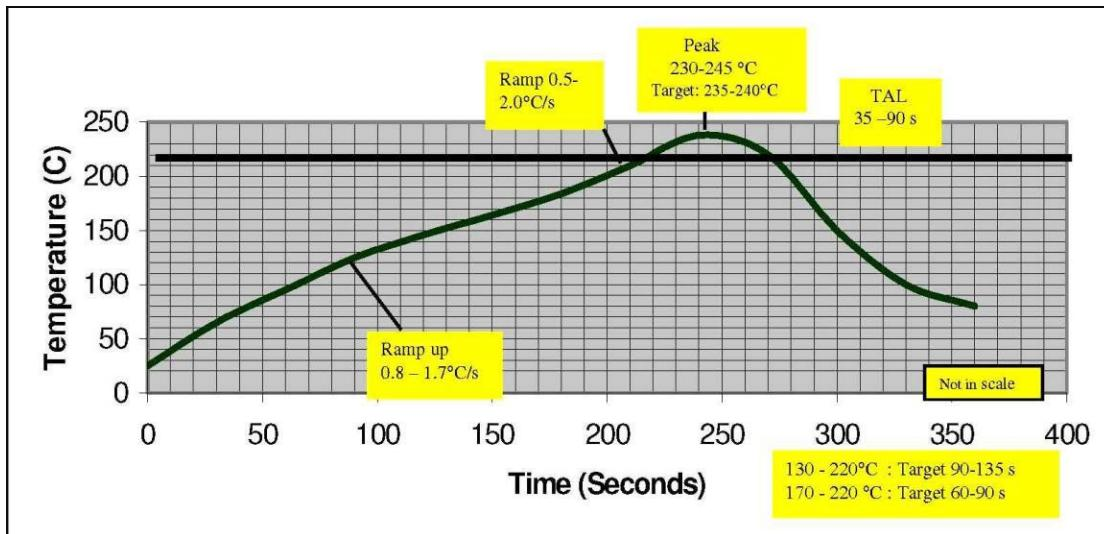

Figure 6: Temperature Graph
**Note: as shown in Figure 6, it is based on the SAC305 lead-free tin paste (3% silver, 0.5% copper). Alpha OM-338 lead-free cleaning-free flux is recommended. The Figure 6 is mainly used for guidance. The entire process time is subject to thermal pad number of assembly board and device Intensity.**